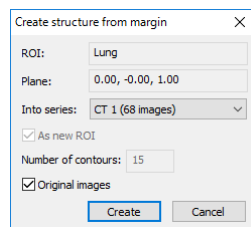

Figure 270 – Create structure from margin dialog
8. To create a new ROI from the generated margin, click the **Make new ROI...** button. The **Create structure from margin** dialog (see Figure 270) is then displayed in which you proceed as follows: